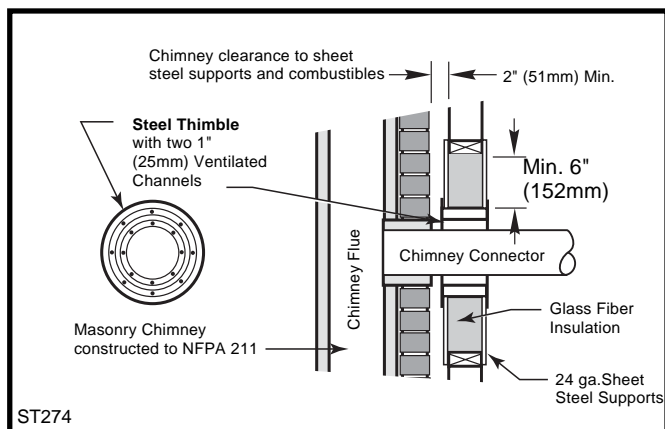

Fig. 9 Wall Pass-through using single wall chimney connector with a ventilated steel thimble.
- Placing a chimney connector pipe inside a steel double-wall ventilated thimble, which is then separated from combustibles by 6" (152mm) of fiberglass insulating material. (Fig. 9)